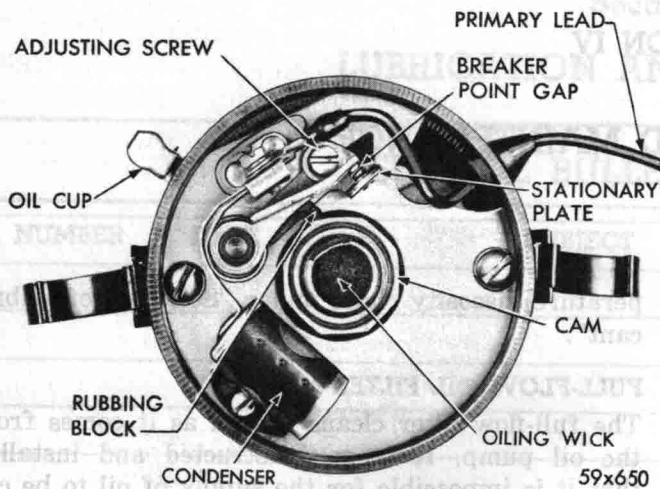

Fig. 2—Distributor Lubrication
- (1) Add 3 to 5 drops of SAE 10W oil to the oiler on the outside of distributor base. (Fig. 2.)
- (2) Lubricate the felt pad under the rotor in the top of the distributor cam with 3 to 5 drops of SAE 10W oil.
- (3) Wipe old grease from surface of the breaker cam. Apply a light film of new distributor cam lubricant number 1473595. **Do not over-lubricate, keep oil and grease away from the breaker points.**